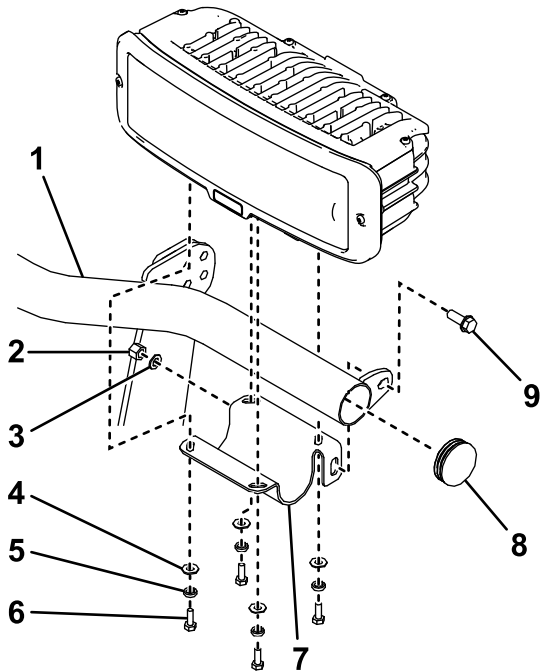

Figure 11
2. Ensure that the end caps are installed on the ends of the light bar (Figure 11).
3. Secure the left headlight-bracket to the light bar using a flange-head bolt (3/8 x 1 inch), a flat washer, and a nylon locknut (Figure 11).
- Secure the left headlight to the headlight bracket using 4 bolts (1/4 inch), split lock washers, and flat washers (Figure 11).